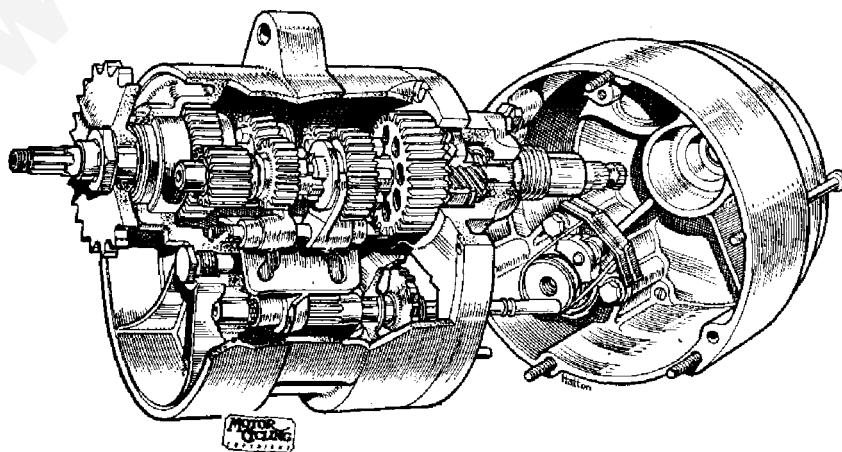

FIG. 47
**The gear box.** It will be seen in Fig. 47 that the gear box internals are situated above the centre line of the gear box shell. It is for this reason at least three pints of engine oil must be filled and maintained for satisfactory lubrication.